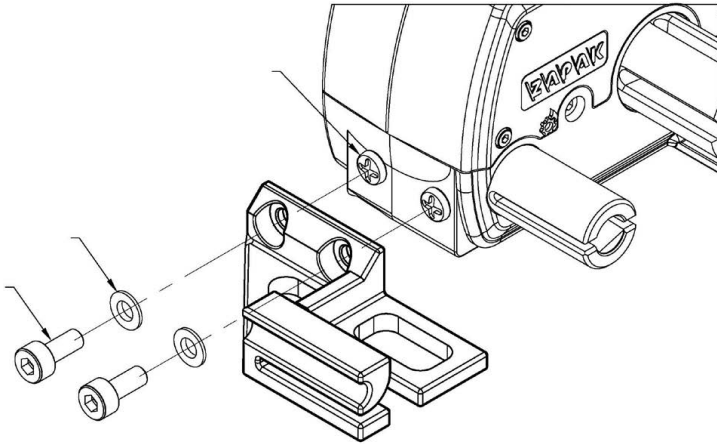

FIGURE 18. ILLUSTRATION OF NOSE PIECE
1. Remove 2pcs (1) Plastic Phillips Screws (M6x8mm).
2. Insert and screw in the 2pcs each of (2) Hex Screw (M6x12mm) and (3) M6 Washer and into the thread holes of main frame assembly through the nose piece as (FIGURE 18) Shown.